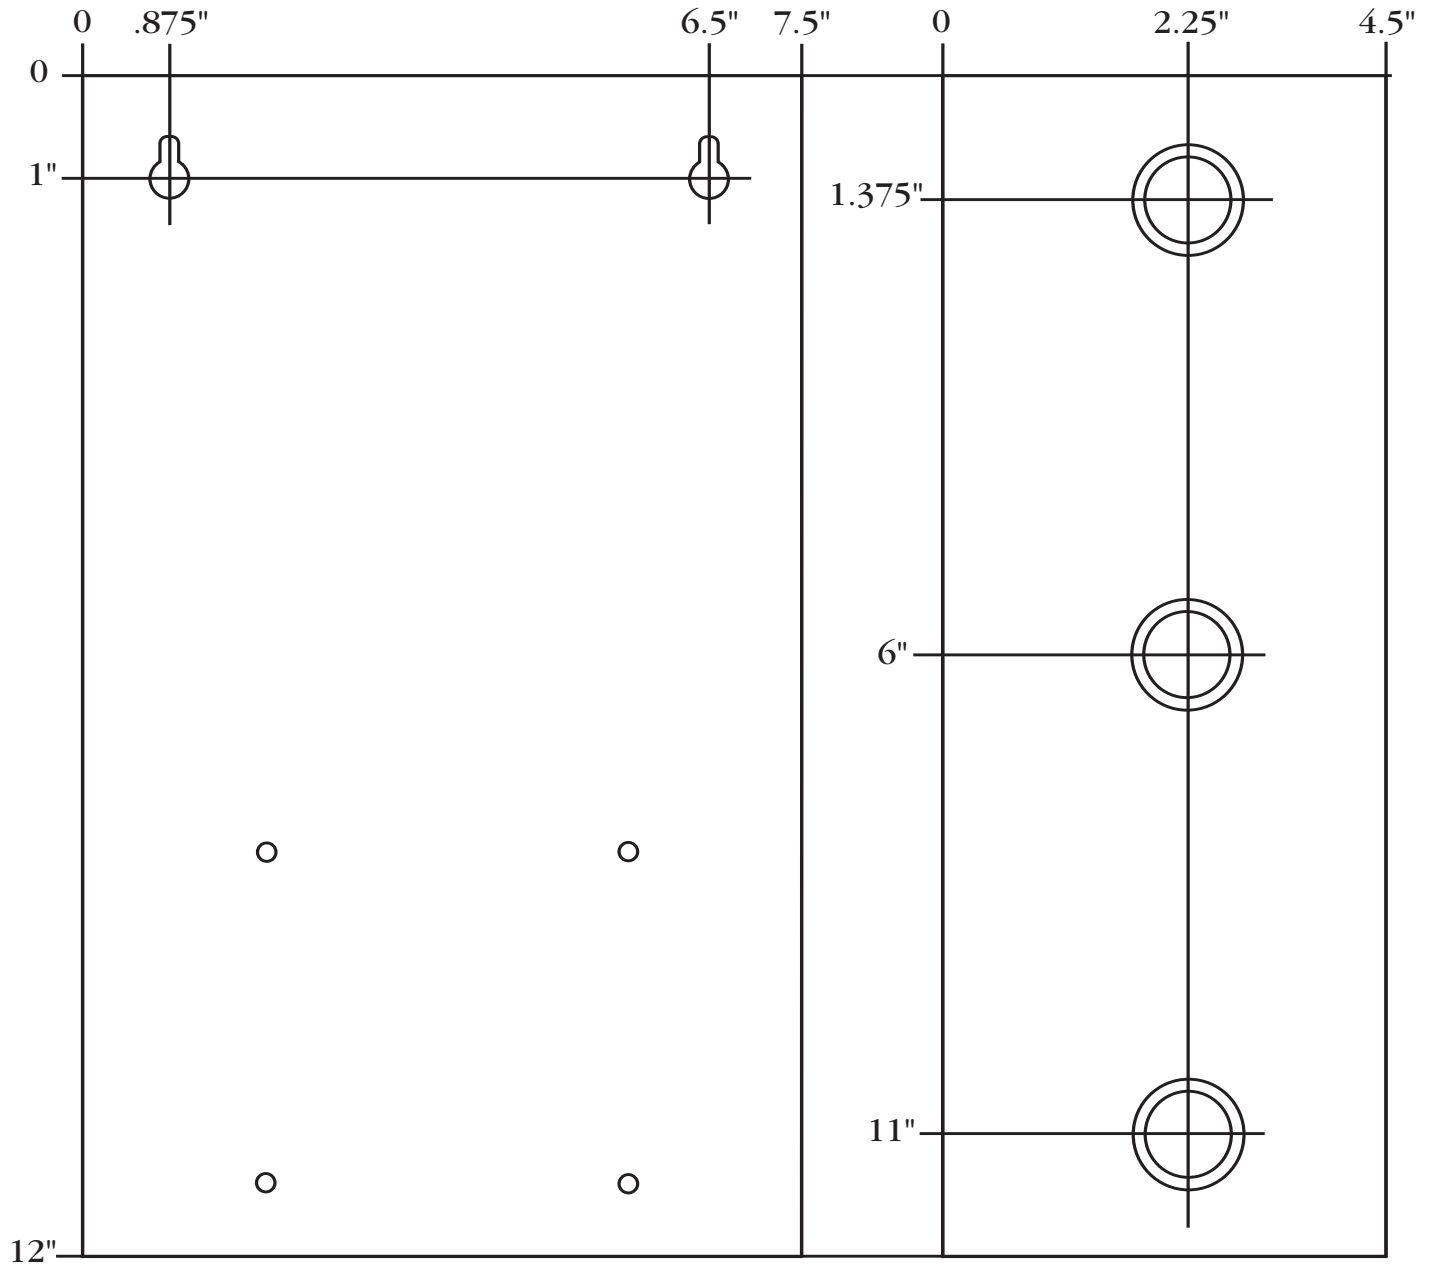

*Fig. 3*
- Eight (8) completely isolated fuse protected outputs.
- Each output is rated at .5 amp (*Fig. 3*).
- Fuses are rated at .5 amp / 250 VAC (*Fig. 3*).